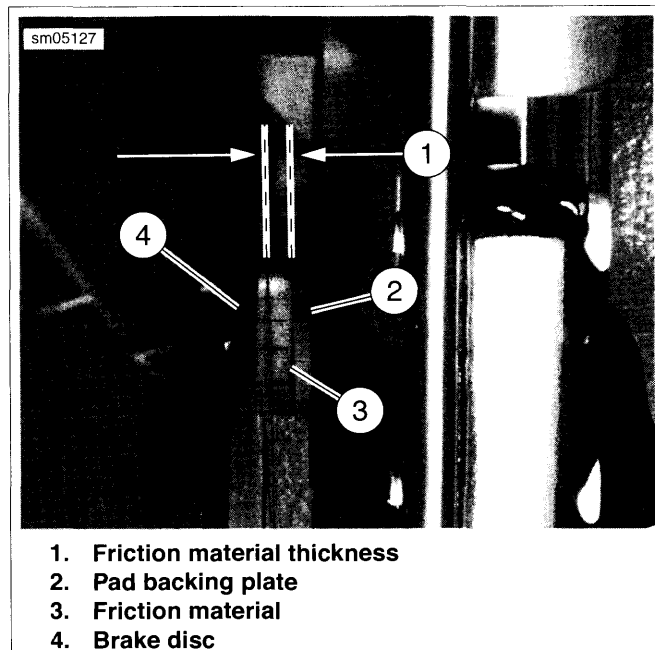

Figure 1-32. Brake Pad Inspection (front brake shown)
See Figure 1-32. Replace brake pads if thickness (1) of brake pad friction material (3) is worn to 0.040 in. (1.02 mm) or less. Always replace both pads in a caliper as a set. See 1.10 BRAKE PADS AND DISCS: XR MODELS, Brake Pad Replacement: Front or 1.10 BRAKE PADS AND DISCS: XR MODELS, Brake Pad Replacement: Rear.